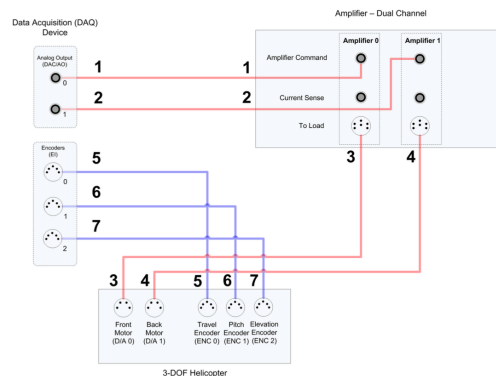

Figure 4: 3 DOF Helicopter system's wiring set up.
- Ensure that the helicopter has been setup (tape removed) and all the connections have been made as shown in Figure 4.